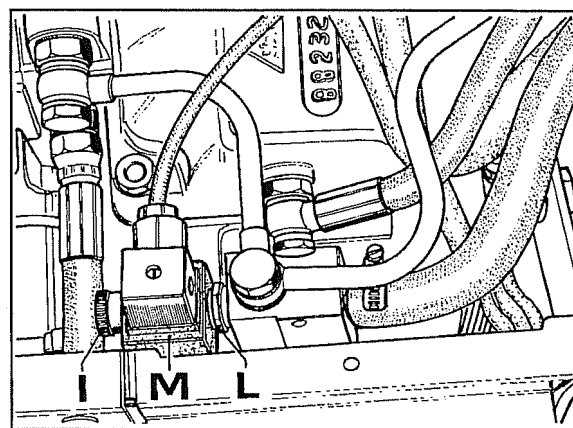
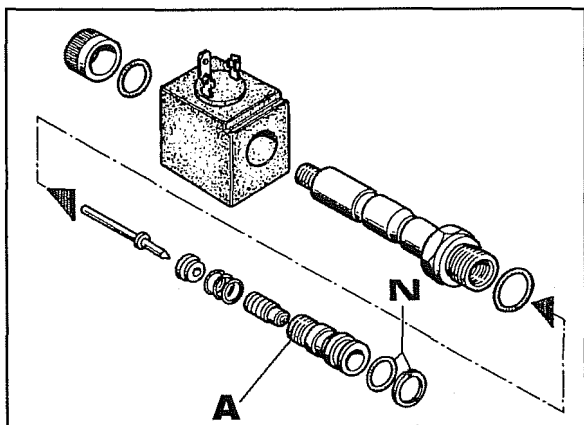

Fig. 19
Fig. 20
1. Slacken off locking ring **I** Fig.19 so that you can move coil **M** and slacken off nut **L** Fig.19 on the solenoid with a wrench. Figure 20 shows the components making up a solenoid. Wash them, dry them with a jet of compressed air and lubricate them with the same oil as the circuit before refitting them.
- a. Mount coil **M** Fig.19 on the solenoid.
- Check to make sure that seal rings **N** Fig.20 are intact.
- When mounting cylinder **A** (Fig. 20) use a couple of drops of Loctite on the threads to be able to control tightening performance and permit better tip movement regulation (referring to step **d** above. At a purely indicative level, once you have tightened this cylinder all the way down, unscrew it about a turn and a half).